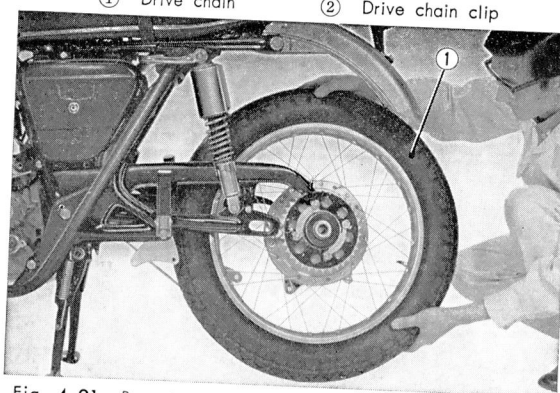

Fig. 4.91 Removing the rear wheel ① Rear wheel
4. Remove the rear axle nut and extract the rear wheel axle. Tilt the rear wheel, and remove. (Fig. 4.91)